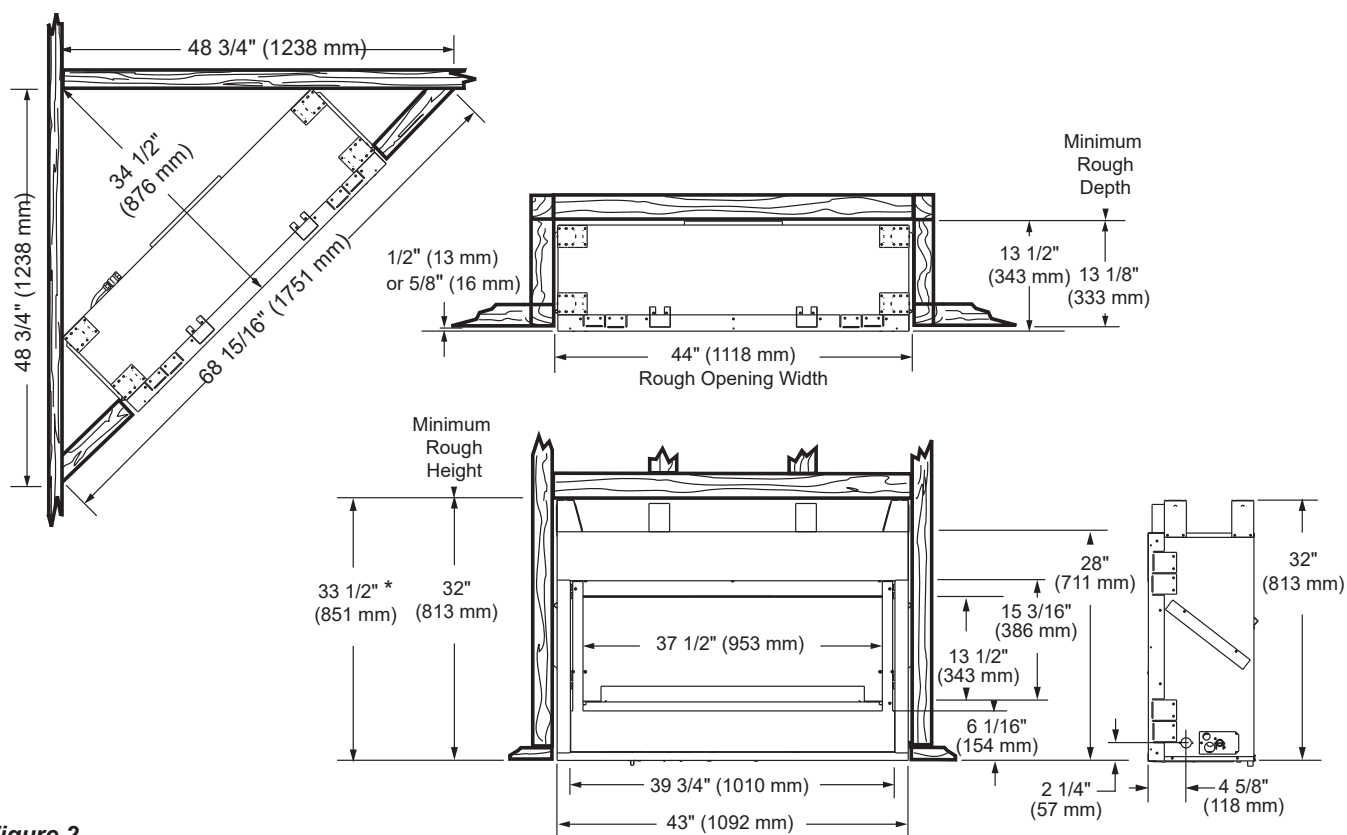
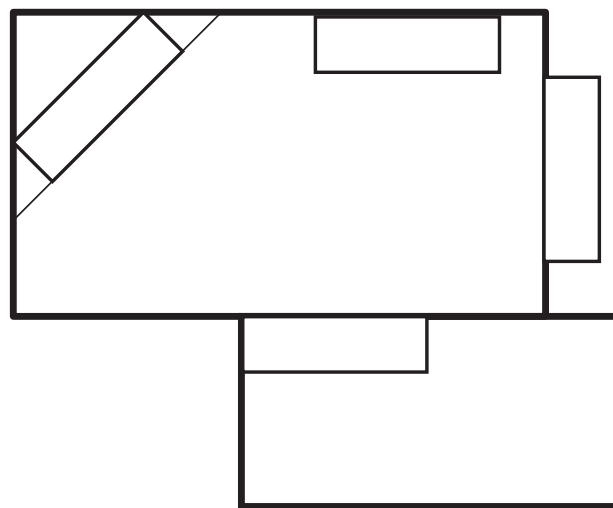
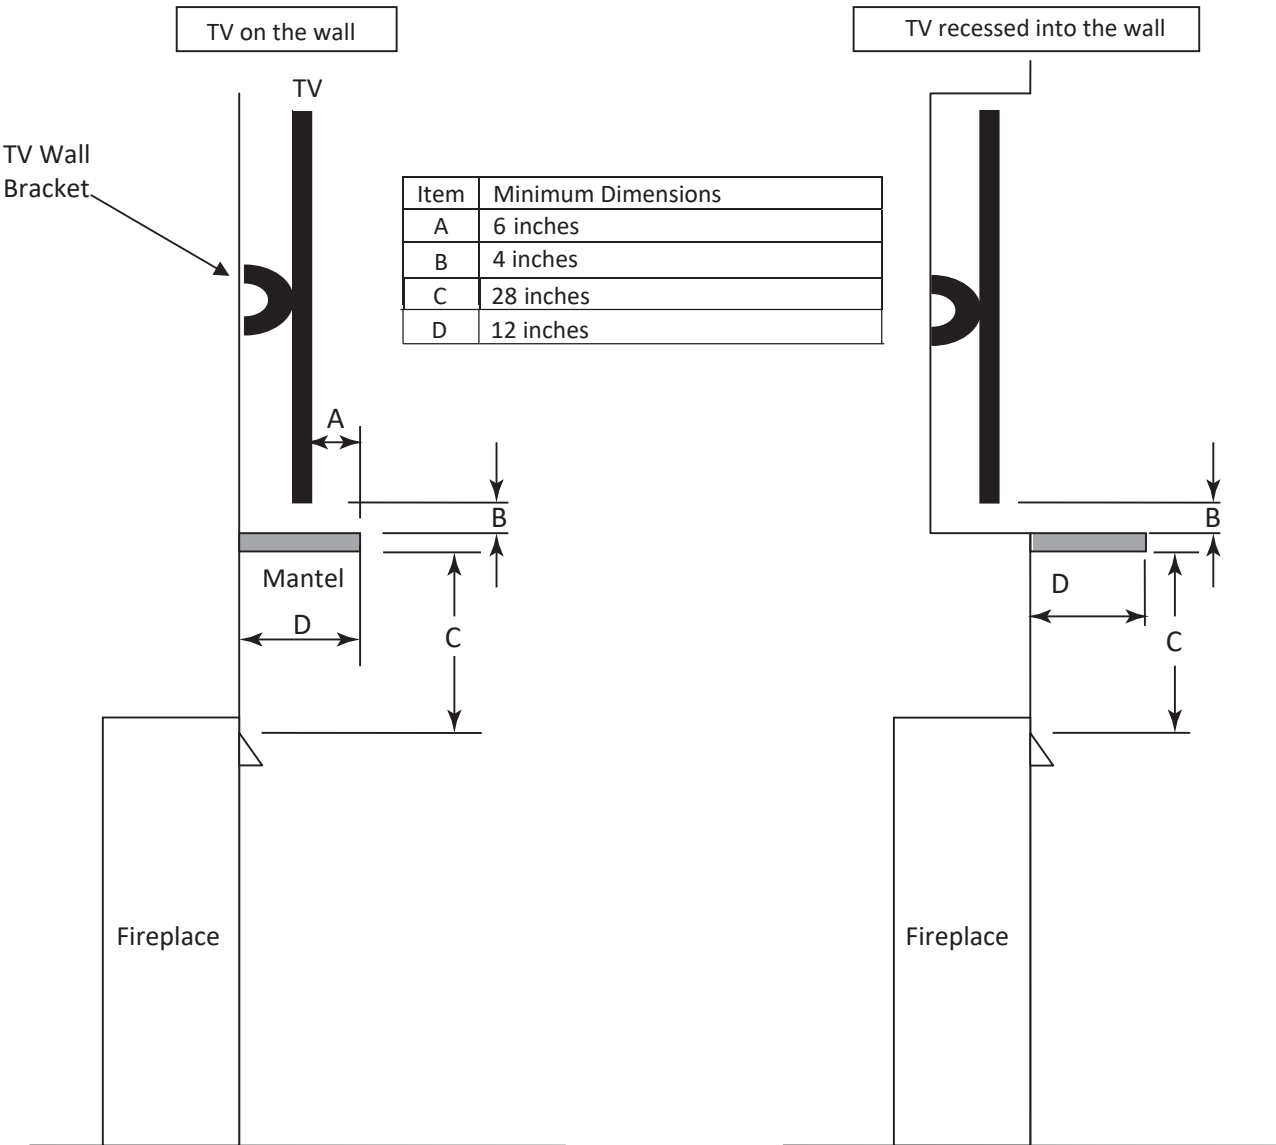

Figure 2 –
Figure 3 – Possible Fireplace Locations
**Figure 4 –
1. Position fireplace in desired location. Refer to the *Fireplace Location* (page 9, Figure 3) and *Clearances and Height Requirements* (page 10, Figures 4 and 5) sections and *Fireplace and Framing Dimensions* (page 7, Figure 2) illustration found in this manual.
- Minimize modifications to existing construction. Refer to *Figure 3* below for location suggestions.
Ensure that minimum clearances shown in *Figures 4 and 5* are maintained. Left and right clearances are determined when facing the front of the firebox.
Sidewall Clearances — The clearance from the inside of the appliance to any combustible adjacent wall should not be less than 6". *Figure 4*
Ceiling Clearance — The ceiling must be at least 36" from the firebox opening. *Figure 4*
The dimensions shown in *Figures 4 and 5* are minimum clearances to maintain when installing this heater. Left and right clearances are determined when facing the front of the heater.
Mantel clearances — Must meet the clearance requirements detailed in *Figures 4 and 5*.